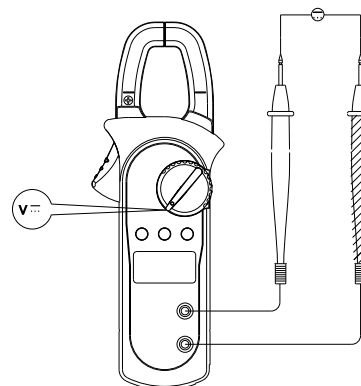

Figure 3
1. DC voltage measurement (V_{DC}) (shown in Figure 3)